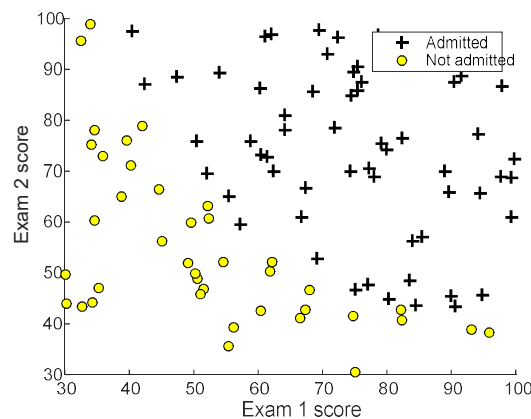

Fig. 1
The file *ex2data1.txt* contains the dataset for our logistic regression problem. The first and the second columns are the scores from the exams, the third column indicates if the student was admitted (1) or not admitted (0). Load the data into variables *X* (first & second columns) and *y* (third column). Complete the *plotData.m* function to create a scatter plot of data. The axes are the two exam scores, and the positive and negative examples are shown with different markers, Fig.1